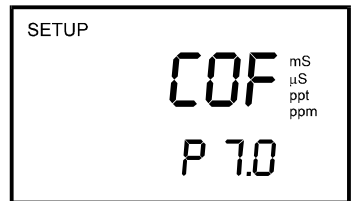

Figure 16 - P7.0 Configuration Set-Up for Conductivity and TDS
- 2) Press the **▲** or **▼** keys to scroll through subgroups until you view parameter P7.0. See Figure 16.